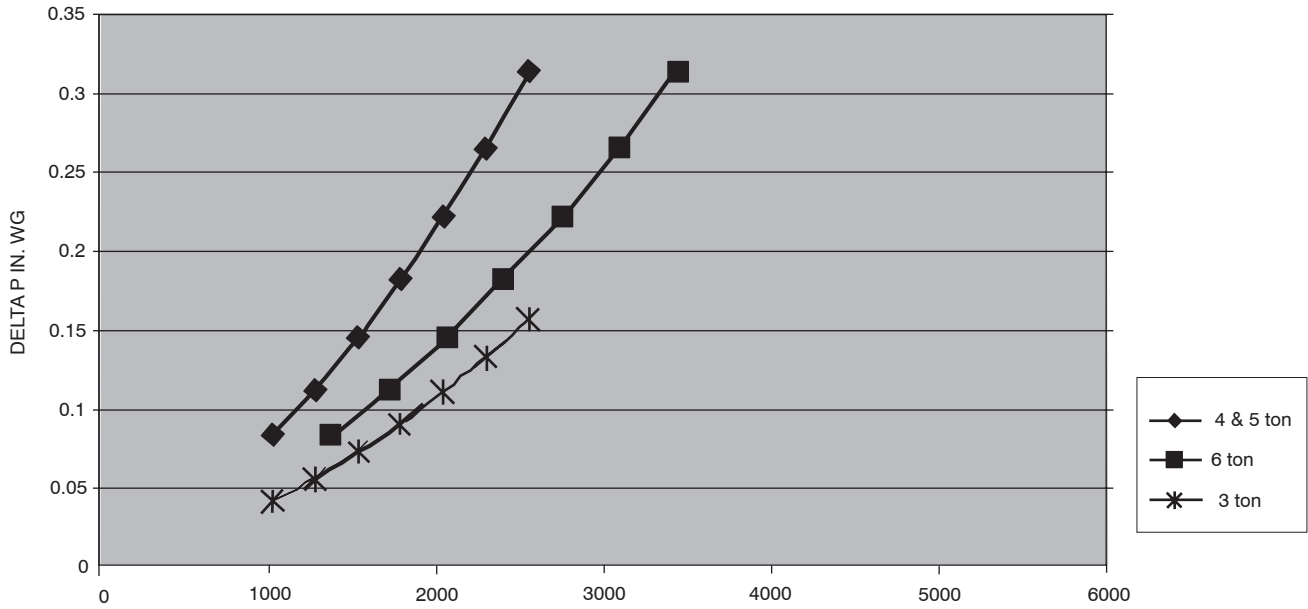

Fig. 46 – Humidi-MiZer™ Adaptive Dehumidification System Static Pressure Drop (in. wg)
1. Values include losses for filters, unit casing, and wet coils. See Table 13 and 14 and Fig. 46 for accessory/FIOP static pressure information.